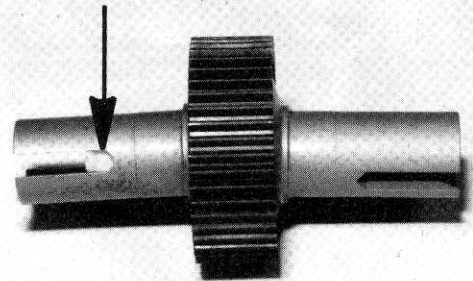

Fig. 47
□ **Fig. 47** As you're tightening, you'll notice the ear on the T-nut, shown by the arrow, moving closer and closer to the bottom of the slot in the hub. The spring should bottom out about the same time as the ear is at the bottom of the slot. When you feel the spring bottom out, that's when you back off 1/8 to 1/4 turn and your diff is correctly adjusted. The diff should operate very smoothly when turning the hubs in opposite directions. Recheck the adjustment before driving the car. There is never a need to adjust the diff in any other manner.